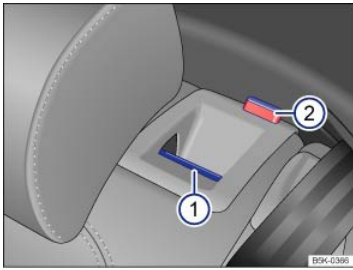

Fig. 81 Rear seat backrest: Release button ① and red mark on the indicator ②.
- Pull the release button ⇒ *Fig. 81 ①* forward to release the rear seat backrest.
The rear seat backrest is unlocked if the red mark ⇒ *Fig. 81 ②* can be seen on the indicator.
- Fold the rear seat backrest back until it latches securely ⇒ . The red mark on the indicator ⇒ *Fig. 81 ②* should no longer be visible.
- If the red mark on the indicator ⇒ *Fig. 81 ②* is visible, this indicates that the backrest is not latched into place. Always check to make sure that the red mark is not visible whenever the rear seat backrest is in the upright position.